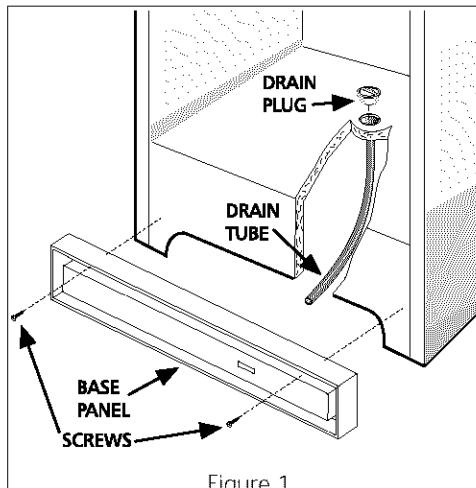

Figure 1
- Remove base panel (some models) by unscrewing two screws from front of base panel. (Figure 1)
- **On upright models** with a defrost drain (Figure 1), remove the drain plug on the inside floor of the freezer by pulling straight out. To access the external drain tube on models with a base panel, first remove the two screws from the base panel. Locate the drain tube near the left center under the freezer. Place a shallow pan under the drain tube. Defrost water will drain out. Check pan occasionally so water does not overflow. Replace the drain plug when defrosting and cleaning are completed. If the drain is left open, warm air may enter the freezer.